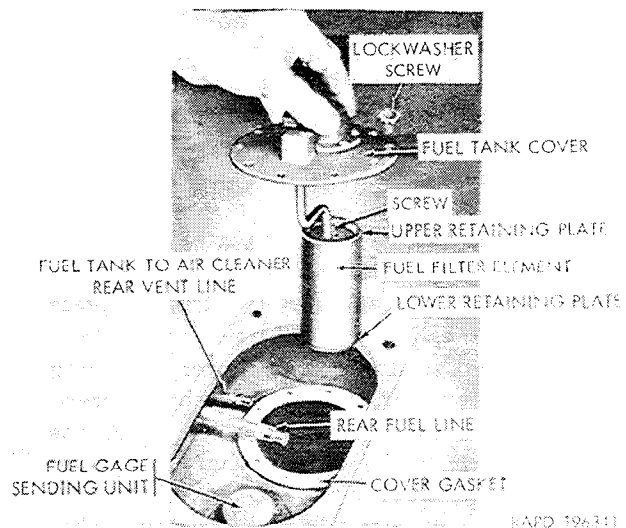
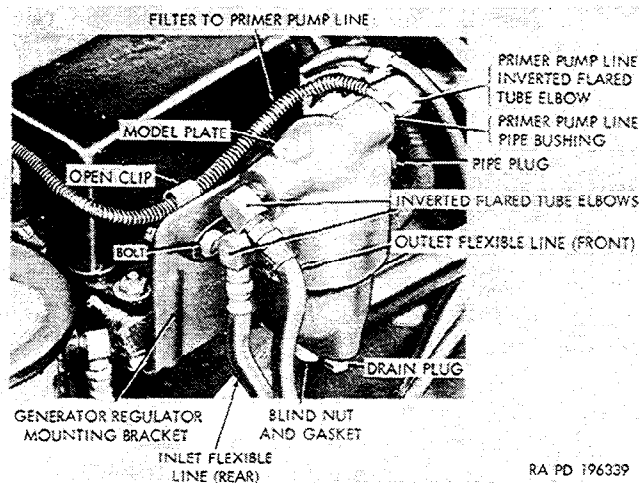

Figure 2-105A. Fuel filter (fuel tank).
Figure 2-105B. Fuel filter (engine compartment).
a. *General.* There are two types of fuel filters. One is located in the fuel tank (fig. 2-105A), and the other is located on the generator-regulator mounting bracket in the engine compartment (fig. 2-105B). Servicing of both types of filters is included in this section.
(1) Remove the four floor-panel-fuel-gage-inspection-hole cover screws and remove the cover (fig. 2-105A).
(2) Clean area around the fuel tank cover and disconnect the fuel tank-to-air cleaner rear vent line at the fuel tank cover.
(3) Disconnect the rear fuel line at the fuel tank cover.
(4) Remove the 10 lockwasher screws that secure the fuel tank cover to the tank, and lift the fuel tank cover with attached filter from the tank.
(5) Remove and discard the cover gasket. Cover the fuel tank opening to prevent dirt from entering the fuel tank.
(6) Remove the screw which holds the upper and lower retaining plates to the fuel filter element.
(7) Remove the retaining plates and element.
(8) Wash all parts in drycleaning solvent or volatile mineral spirits and let dry. If foreign particles are evident on the fuel filter element, drain and let dry.
(9) Slide the upper retaining plate on the fuel tank cover pipe (cupped side up), followed by the fuel filter element and the lower retaining plate (cupped side down).
(10) Install the upper and lower retaining plate screw, lockwasher, and nut. Tighten screw.
(11) Remove the temporary cover from the fuel tank opening. Make certain that the gasket surfaces are clean. Coat cover gasket lightly with liquid type gasket cement and position the gasket on the fuel tank, aligning the screw holes.
(a) Disconnect the outlet flexible line, the inlet flexible line, and the priming system line (if connected) at the fuel filter (fig. 2-105B).